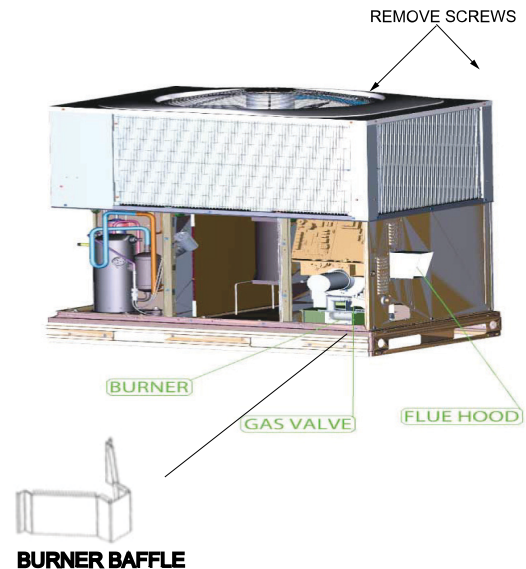

Fig. 16 – Blower Housing and Flue Collector Box
2. Remove the 11 screws holding the flue collector box cover (See Fig. 16) to the heat exchanger assembly. Inspect the heat exchangers.
Ultra Low NOx Burner Baffle Inspection/Cleaning (See Fig. 16.)